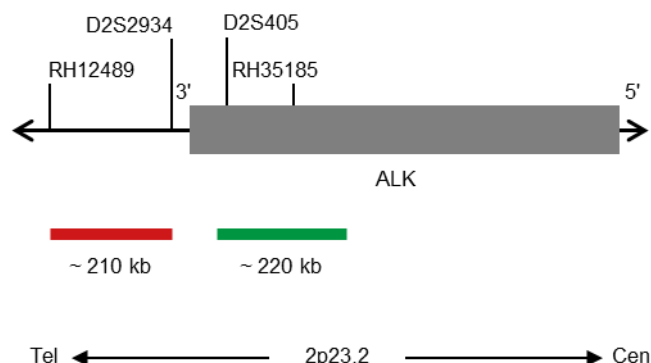

Fig. 1: SPEC ALK Probe map (not to scale)
- Digoxigenin-labeled polynucleotides (~0.50 ng/μl), which target sequences mapping in 2p23.2* (chr2:29,460,144-29,681,581) proximal to the ALK breakpoint region (see Fig. 1).
- Dinitrophenyl-labeled polynucleotides (~0.75 ng/μl), which target sequences mapping in 2p23.2* (chr2:29,174,204-29,383,335) distal to the ALK breakpoint region (see Fig. 1).